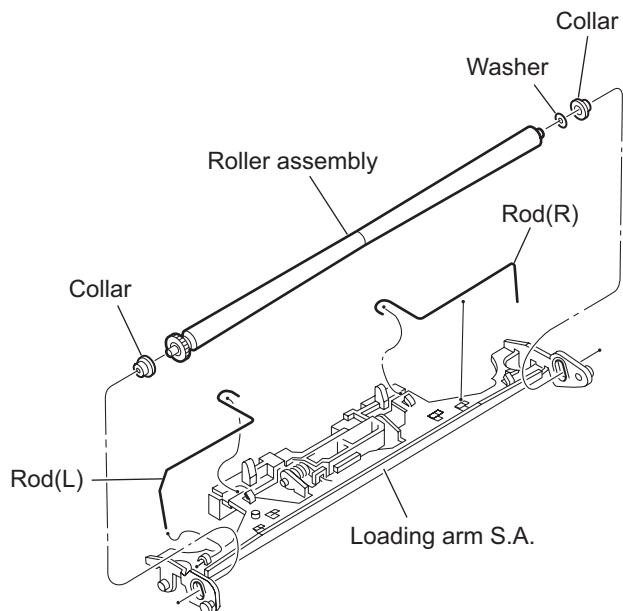

Fig.16
- (2) Remove the roller assembly from the loading assembly. (See Fig.16)
- (3) Remove the two collars and washer from the roller assembly. (See Fig.16)